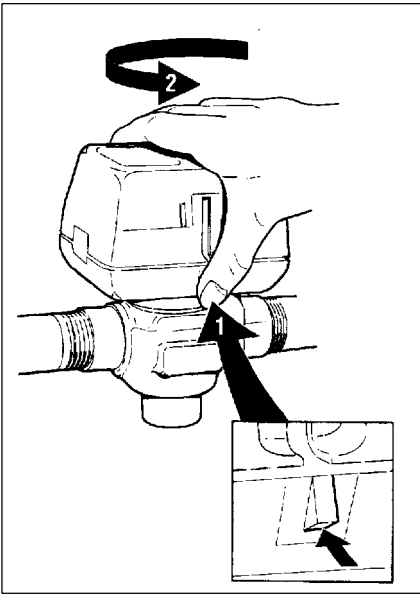

Fig. 12. Latch mechanism
- The actuator head is automatically latched to the valve (see fig. 12.) To remove lift up on the latch mechanism located directly below the red manual open lever. Press the actuator head down towards the valve body with moderate hand force and turn counter-clockwise by  $\frac{1}{8}$  turn (45 degrees) simultaneously. Lift the actuator head off the valve body.